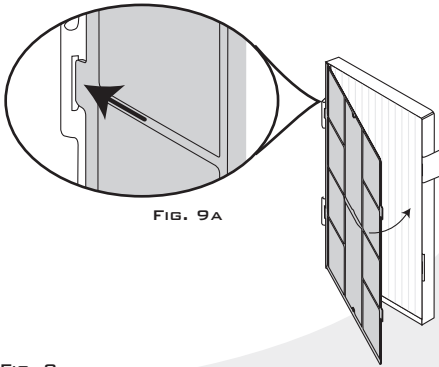

FIG. 9A
4. **Reattach** the Pre-filter by **sliding** the left two tabs into the slots in the frame of the HEPA Filter (Fig. 9a).